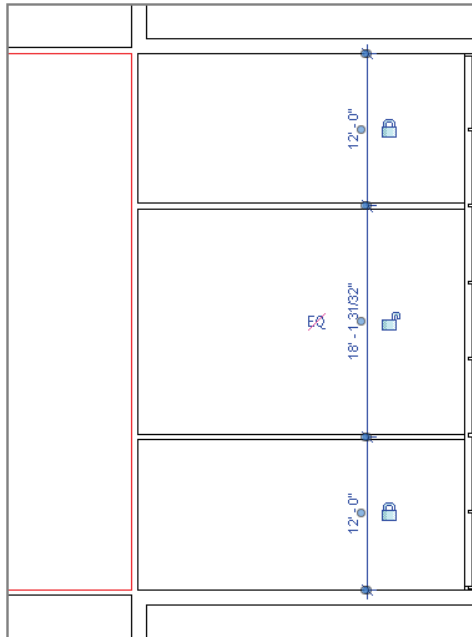

FIGURE 1.25 Lock dimensions along a string to preserve design intent.
14. With the dimension string selected, click the lock symbol below each 12'-0" (3.6 m) dimension to establish a constraint, as shown in Figure 1.25.